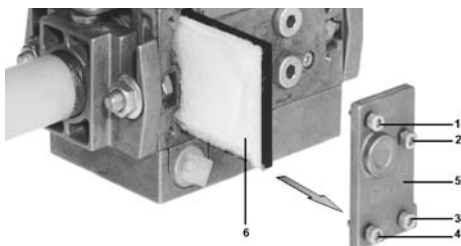

Fig. 23
- 2 Remove screws 1 ÷ 4 using the Allen key n. 3 and remove filter cover 5 in Fig. 23.